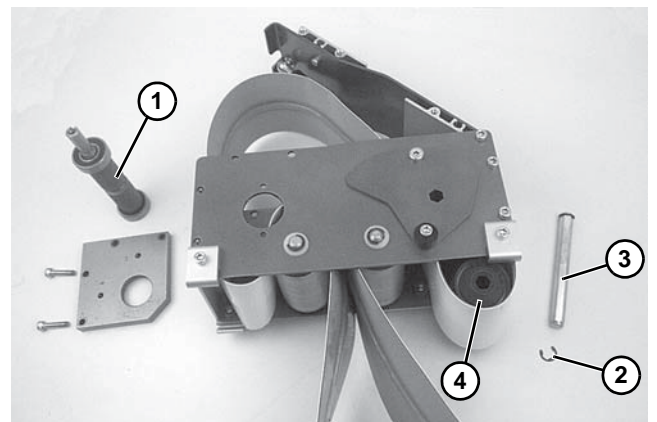

Figure 37
2. Remove drive pulley (**Figure 37, item 1**).
- For 2" (44 mm), 3" (70 mm) or 4" (95 mm) wide conveyor, detach E-ring clip (**Figure 37, item 2**). Remove pulley shaft (**Figure 37, item 3**) and remove pulley (**Figure 37, item 4**).